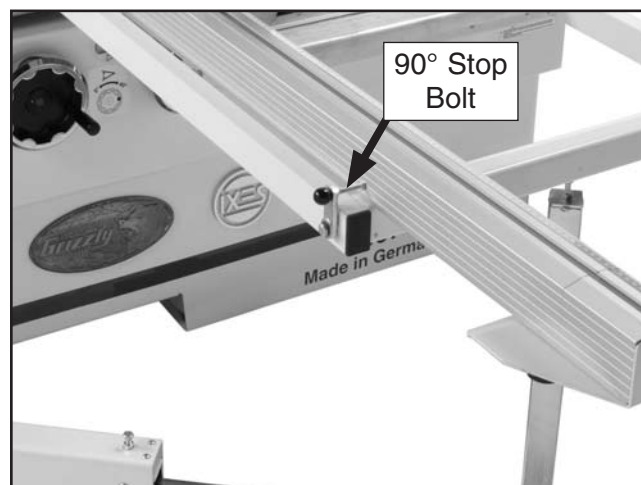

Figure 99. Crosscut fence adjustment bolt.
1. Make sure the blade is parallel with the sliding table and that the crosscut fence is resting against the 90° stop bolt (see **Figure 99** for locations).
6. Loosen the hex nut on the 90° stop bolt shown in **Figure 99**, and rotate the 90° stop bolt to square the crosscut fence.